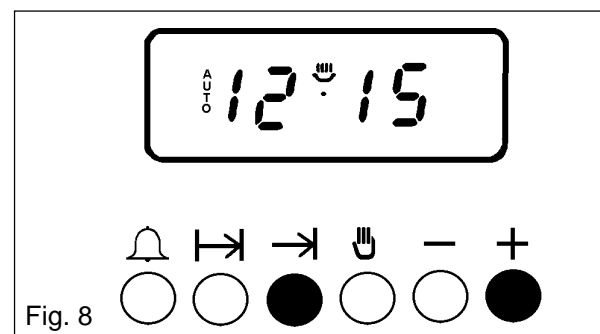

Fig. 8
- Set the STOP time. Press the stop time button (→) , while holding it down, press the increase control (+) until the required stop time is displayed, e.g. 12.15p.m. as Fig. 8. If necessary depress the decrease control (-) until the correct time interval is achieved.